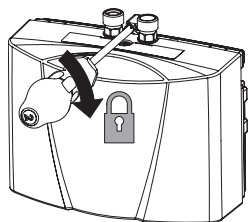

Figure 5
- Secure the heater to the wall bracket using a Phillips screwdriver (Figure 5).